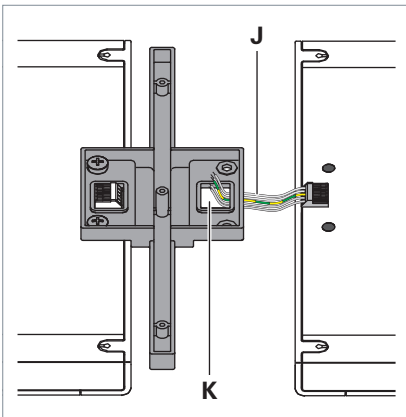

Fig. 14: Installing the cables.
- ▶ Guide the cables **J** of the luminaire to be daisy chained from below through the recess **K** at the connecting element of the last mounted luminaire, see Fig. 14.